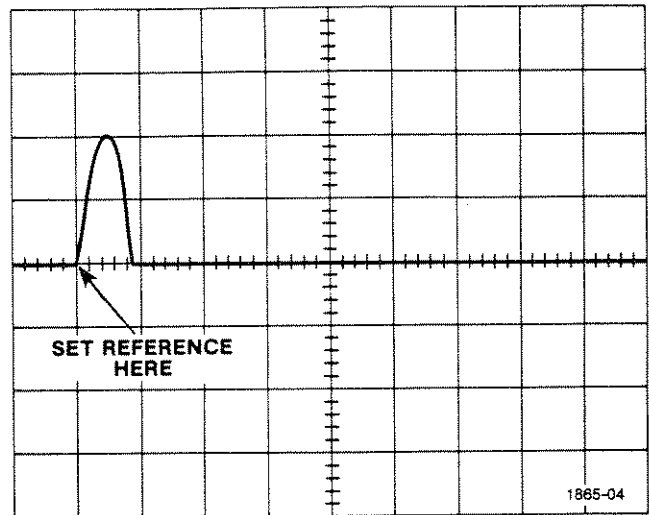

Fig. 2-4. Test pulse at reference line.
Always use the leading edge at the base line of the pulse for setting reference. (See Fig. 2-4.)
*Always use the leading edge at the base line of the test/return pulses for setting the reference. (See Fig. 2-4.)*